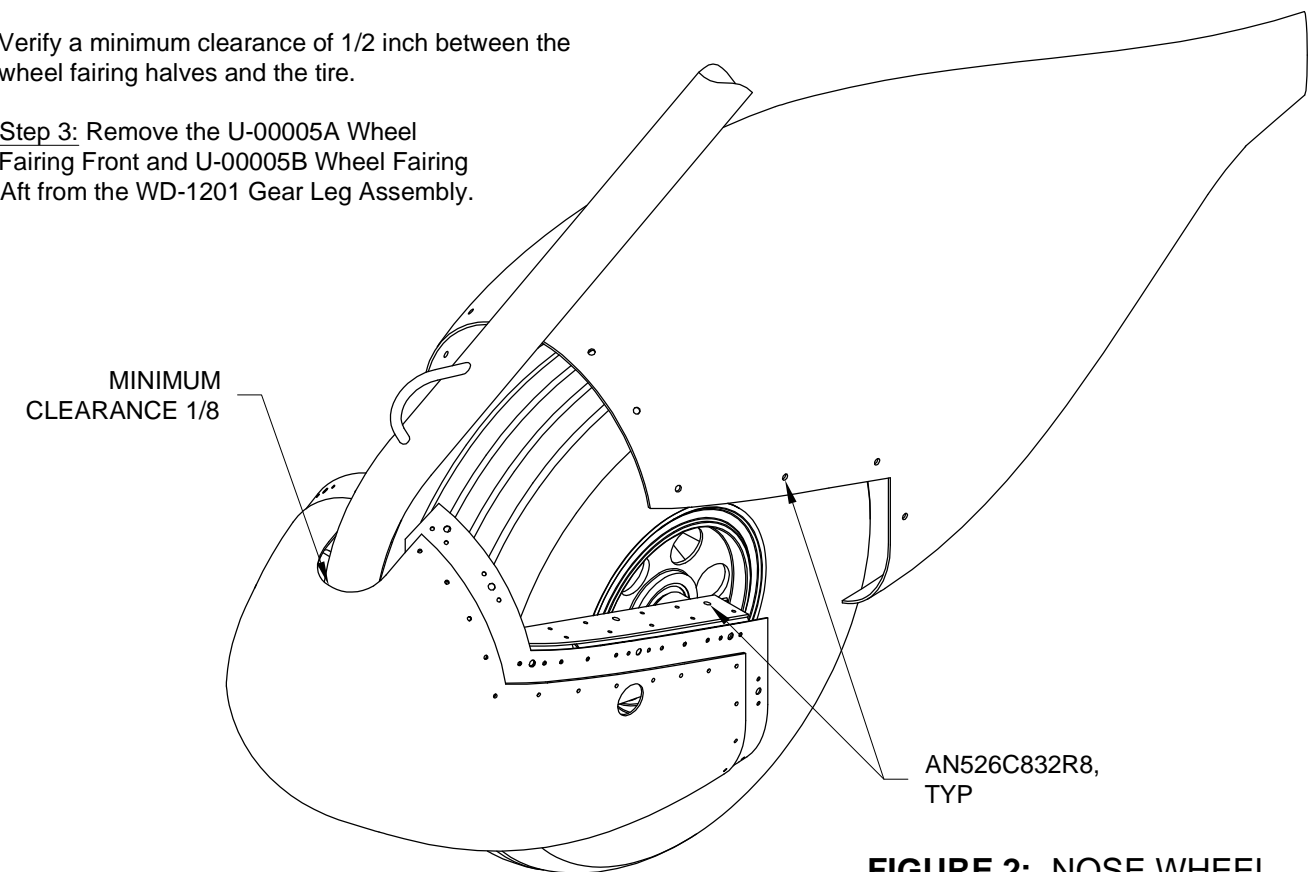

FIGURE 2: NOSE WHEEL FAIRING INSTALLATION
Step 2: Install the U-00005A Wheel Fairing Front and U-00005B Wheel Fairing Aft on the WD-1230 Nose Fork as shown in Figure 2. Check that there is a minimum clearance of 1/8 inch between the wheel fairing front and the WD-1201 Gear Leg Assembly.